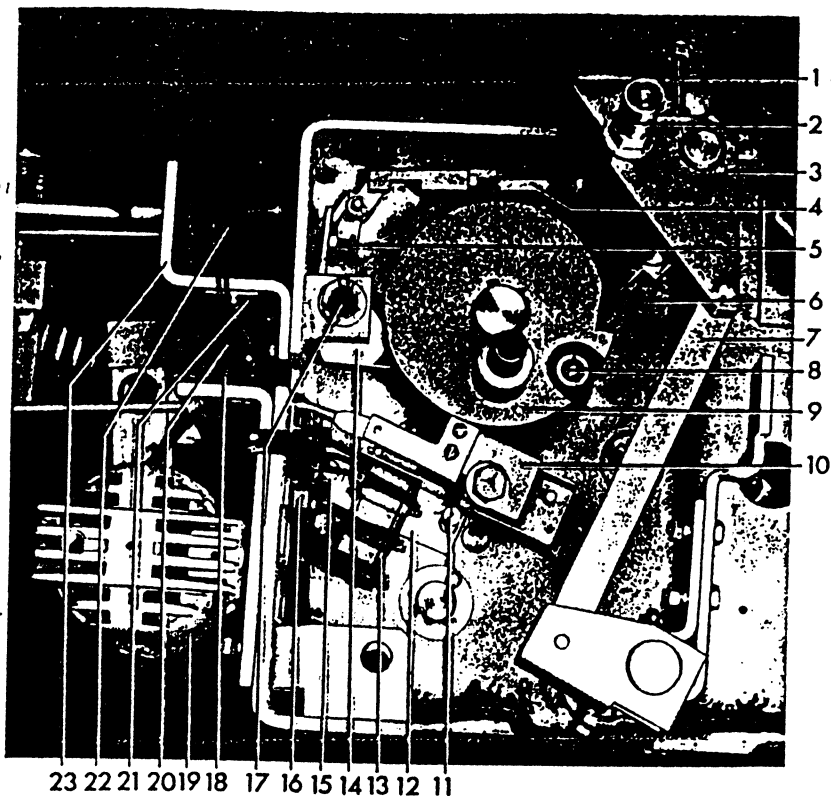
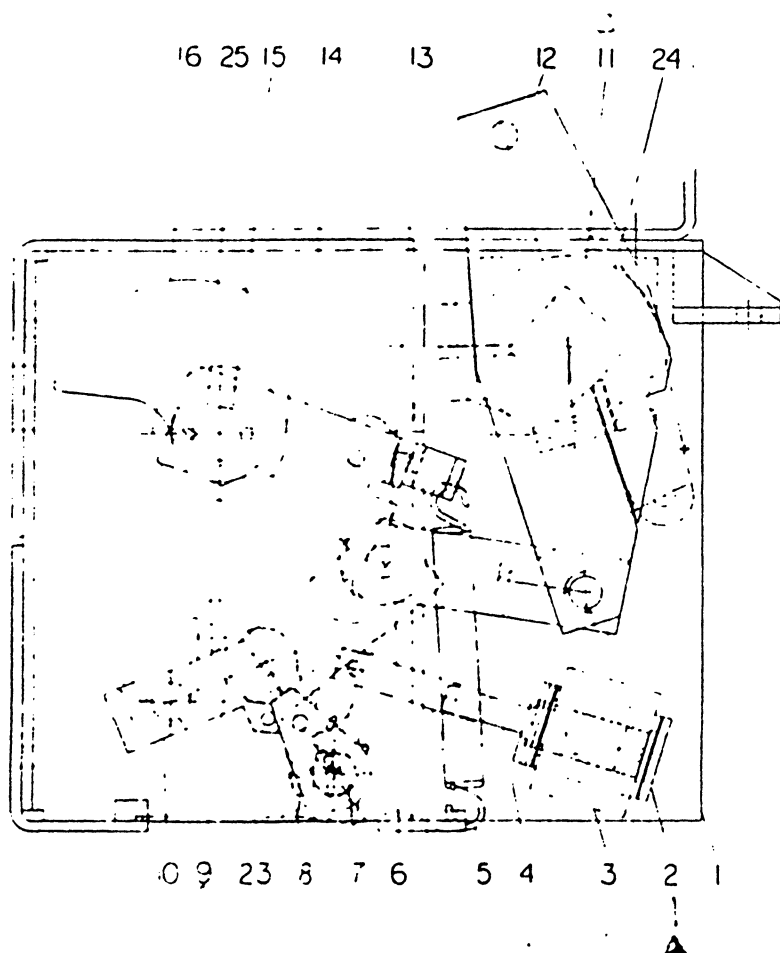
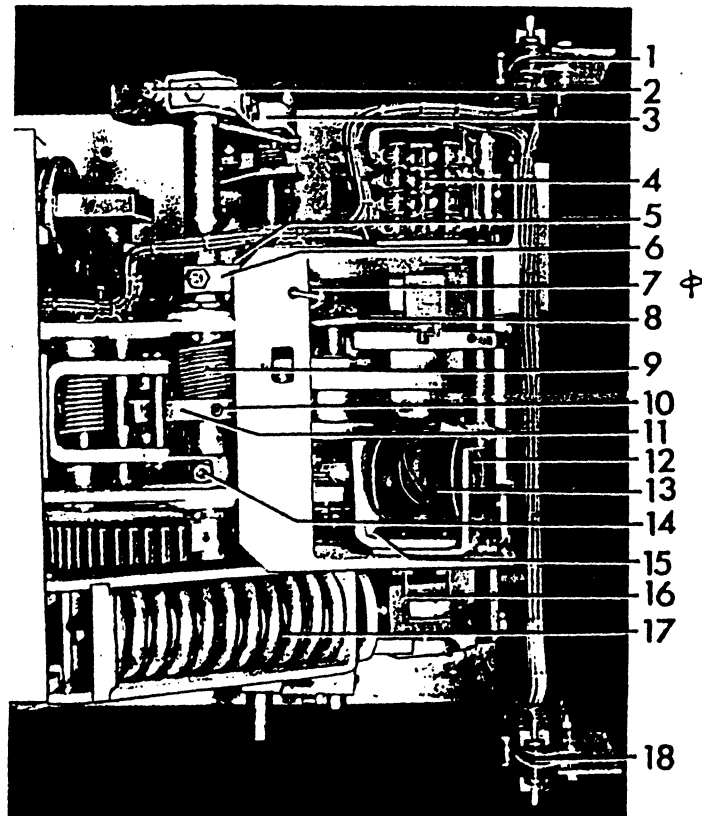
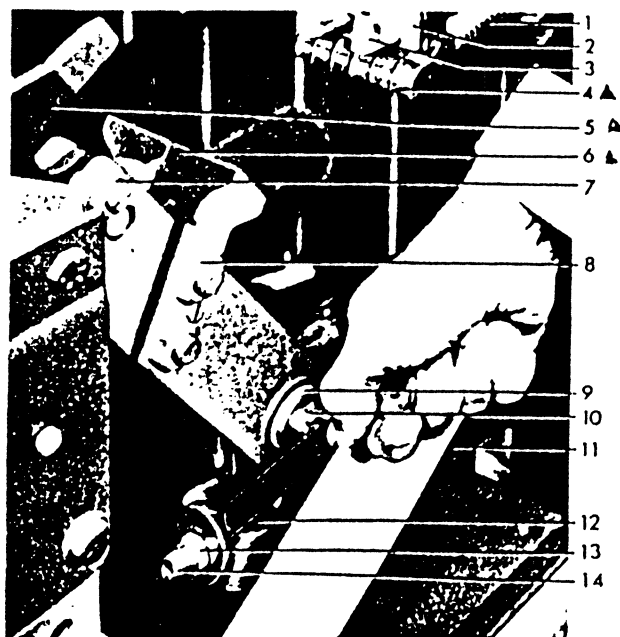

Fig. 4 (8037379) Control Mechanism and Spring Discharge Link
Fig. 8 (0121C8152) Sectional Side View of Mechanism
Fig. 9 (8037378) Bottom View of ML-13A Operating Mechanism
Fig. 12 (8037374) Primary Contact Adjustment
A spring release interlock, Fig. 4 is provided to discharge both the closing and opening springs when the breaker is withdrawn from or inserted into the Metal Clad unit.
The breaker can be closed electrically by energizing the spring release solenoid (22) Figure 4, or manually by pushing the close button (6) Figure 2. In either method the closing latch is rotated from under the closing roller to release the closing springs (10) Figure 3. The energy in the springs is used to rotate a cam (16) Figure 8 and close the breaker through the operating mechanism linkage. During the closing operation the mechanism is trip-free at all times. The breaker is held closed by the closing prop (14) moving into position under the prop pin (13). During the closing operation the opening springs (17) Figure 9, are compressed and held ready for an opening operation with the trip latch (8) Figure 8 bearing against the trip latch roller (9).
When the closing operation of the breaker is completed and the closing latch is fully reset, the contacts of the latch monitoring switch (20) Figure 4, closes to permit the spring charging motor to be energized and recharge the closing springs.
The breaker can be opened either electrically by energizing the trip coil (13) Figure 9, or manually by pushing the trip lever (1) Figure 2. In each method the trip latch is rotated off the trip latch roller, permitting the operating mechanism linkage to collapse. The energy stored in
If the trip coil circuit is energized while the breaker is closing, the trip armature will force the trip latch (8) Figure 8 away from the trip
sion be sure the mechanism is re-set so that the prop pin (13) Figure 8 is resting on the prop. To obtain the proper contact adjustment, open the breaker and, referring to Figure 12, loosen the check nut (13) and turn the adjusting nut (12). Screwing the adjusting nut toward the operating rod (11) will decrease the primary contact wipe, toward the end of the stud (14) will increase it. Tighten the check nut, close the breaker and recheck the wipe. With the primary contact wipe correctly adjusted, the clearance between the contact arm (6) Figure 11 and the buffer block (3) should be $1/16$ " or greater when the breaker is fully closed.
Refer to Figure 12. With the breaker closed, press the manual trip button allowing the breaker to trip open normally. Do not force the contacts open wider by hand. The gap between the stationary primary contacts (4) and the movable primary contact (6) measured between the closest points, should be $3-5/8$ " to $3-15/16$ ". To change this gap, loosen the check nut (17), Figure 8, and turn the adjusting nut (18) on stud (19). Screwing the adjusting nut down will decrease the primary contact gap. Tighten the check nut and re-measure the contact gap (close and trip the breaker before checking the measurement). Whenever the primary contact gap is changed, the primary contact wipe should be rechecked and, if necessary, readjusted.
Refer to Figure 8. The wipe of the trip latch (8) on the trip roller (9) should be from $3/16$ " to $1/4$ ". This can be measured by putting a film of grease on the latch (8), closing the breaker part way, and tripping. The mechanism has the proper trip latch wipe when the latch rests against the stop pin (23). No adjustment is provided and a visual inspection is usually all that is required. If this setting is not correct, look for insufficient travel of the trip shaft (7).
Refer to Figure 8. The trip armature (4) should have $7/32$ " to $9/32$ " travel before the trip latch (8) starts to move. This can be adjusted by moving the trip coil support (2) and/or by adjusting the trip armature screw (14), Figure 9. A locking screw located behind the trip armature screw must first be loosened. Retighten locking screw after making adjustment.